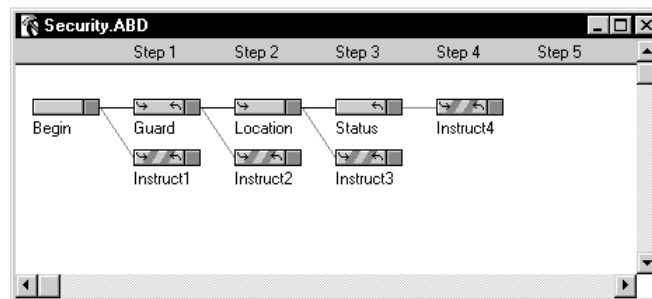

Figure 4-58 Security.abd with Detour Handlers Named
32. Your application window should appear similar to Figure 4-58.